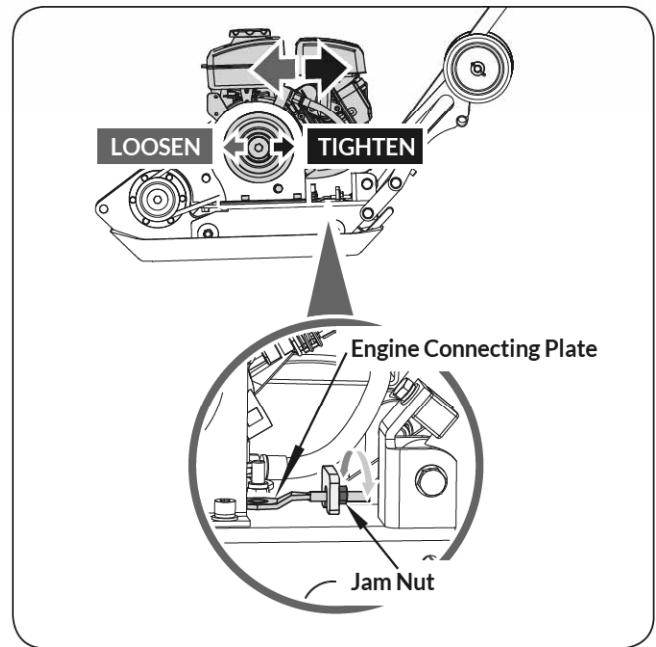
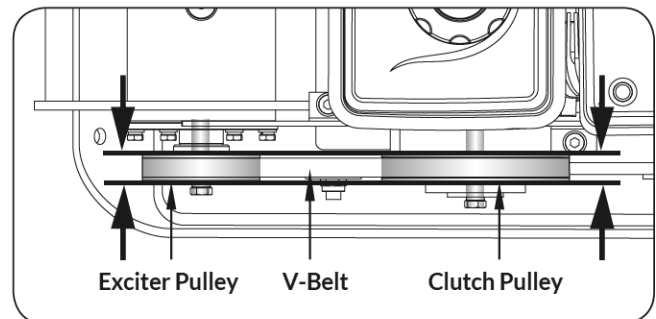

Figure 8c
Figure 8d
2. Push the engine by hand toward the back of plate to increase belt tension, then tighten the jam nut. (See **Figure 8c** & **Figure 8d**)